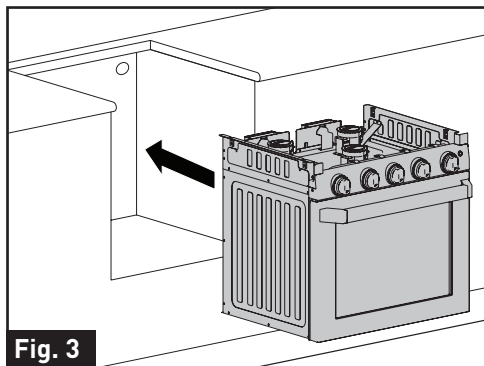

Fig. 3
3. Slide the range oven into the cabinet opening. Verify the oven is level from side to side and front to rear. (Fig. 3)